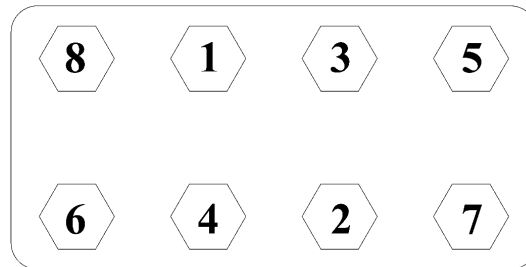

Figure 45 Clamp Plate Torque Sequence for Clamp Plate Nuts
5. To be sure that an evenly distributed load is developed on the clamp plate and cylinders, **torque** each nut one half turn in succession. **Using** the 24mm socket (15/16" socket) and a torque wrench, **tighten** each nut according to the sequence in **Figure 45** below until each nut is torqued to 175 ft-lbs (237 N.m).
To avoid component **DAMAGE** and to achieve an even loading of the studs and ring seals, be sure all nuts are tightened evenly in the order specified in **Figure 45** above.